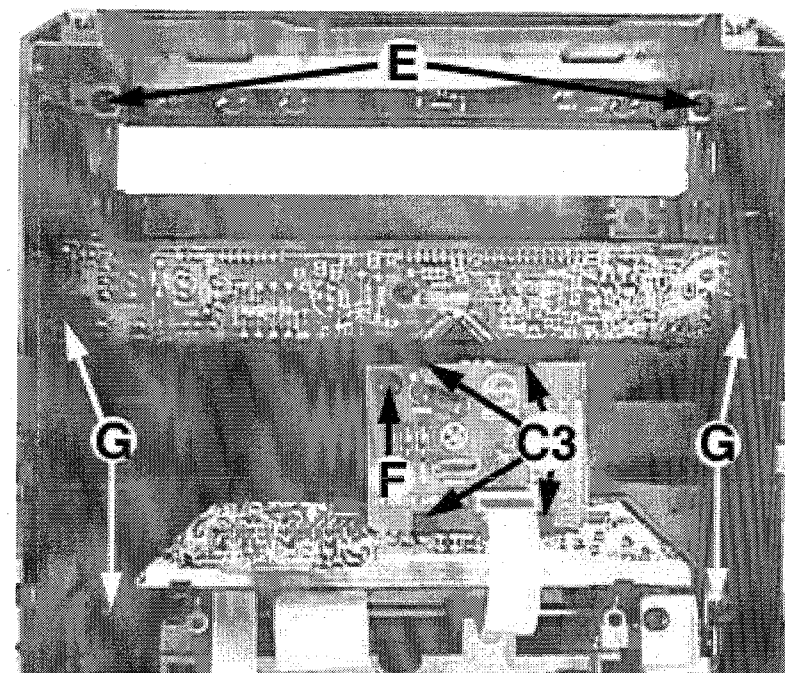

Figure 11
- 4) Loosen 2 screws E (see Figure 11) to remove the Bracket Top Support (pos 1113).
- 5) Loosen 1 screw F and 4 catches C3 (see Figure 11) to remove the Eeprom Board (pos 1105D).
- 6) Loosen 4 screws G (see Figure 11) to remove the Bracket Combi (pos 1155).